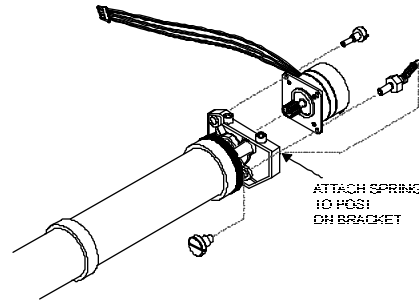

Figure 5-25. Stepper Motor Removal/Installation.
11. Remove the Stepper Motor Extension Spring from the Stepper Motor and the post on the Left Lower Drive Shaft Bracket. See Figure 5-25.